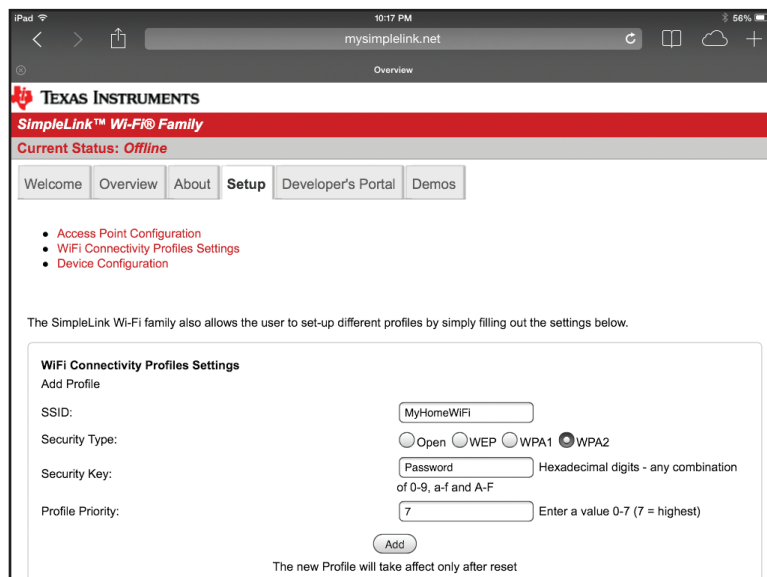

Figure 2. The SimpleLink Wi-Fi CC3200 on-chip web server setup page
Figure 2 is an iPad screen capture of the SimpleLink™ Wi-Fi CC3200 from Texas Instruments (TI) setup tab of the on-chip web site. The setup tab allows the user to provide the SSID and the security key for